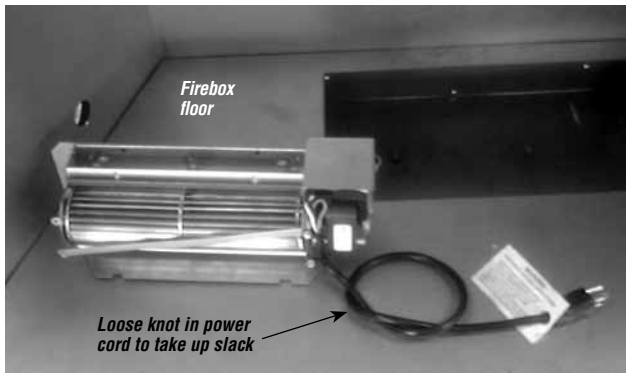

Figure 19
**Step 3.** Loosely tie a knot in the power cord to take up slack (see **Figure 19**).